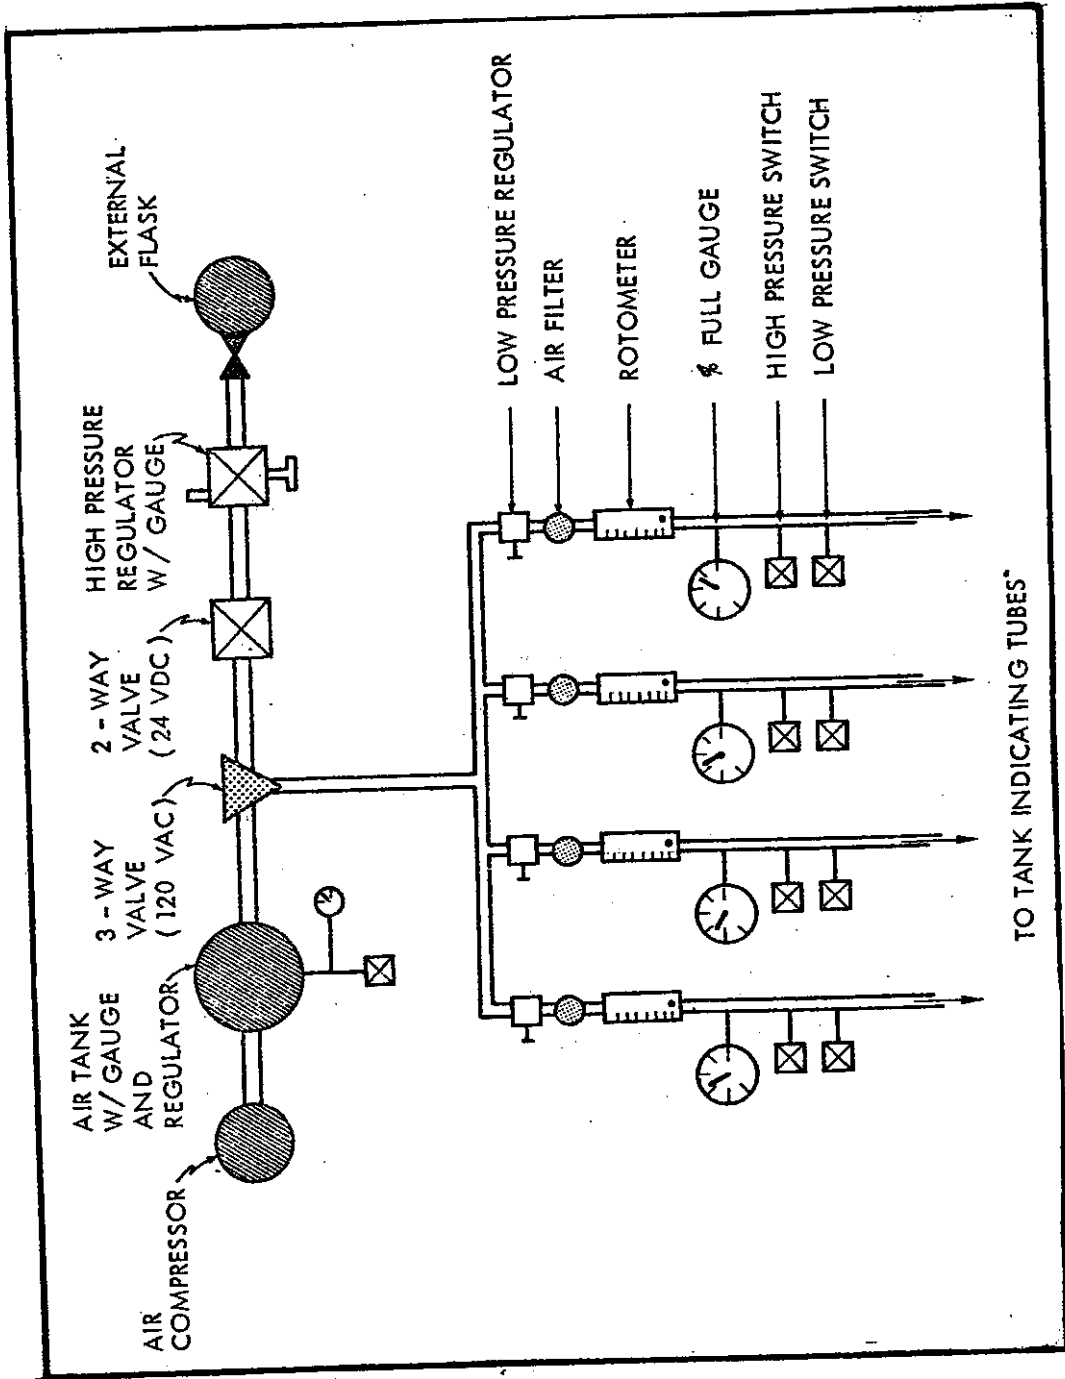

FIGURE 2-11
The arrangement of pressure regulators, gauges and switches, etc. is shown in Figure 2-10. Functional relationships of these various components are given in block form in Figure 2-11. The three functions and their associated components are described below.
activated, air1 flows from the bottle through a high-pressure regulator (reducing down to 30 psig pressure) and through the 2-way (24v DC) valve and 3-way (120v AC) valve to the four low-pressure regulators (see Figure 2-11). The 3-way valve prevents flow into the secured air compressor. With both the 120v AC and 24v DC systems activated, the 3-way (120v AC) valve operates and changes position to block flow from the 2-way (24v DC) valve and allows flow from the air compressor to the four low-pressure regulators. Because it takes a while for the air compressor to build up pressure (30 psig), a time delay switch controlling the 3-way valve (see Figure 2-10) is provided to insure that air flow is not interrupted during power transfer.
b. Flow beyond the 3-way valve is divided into four identical branches, each corresponding to one tank as shown in Figure 2-11. In the branch lines the flow passes through the low-pressure regulator and the air filter; the flow rate is adjusted manually to the required 1.0 SCFM with the Dwyer rotometer (refer to Figure 4-3).